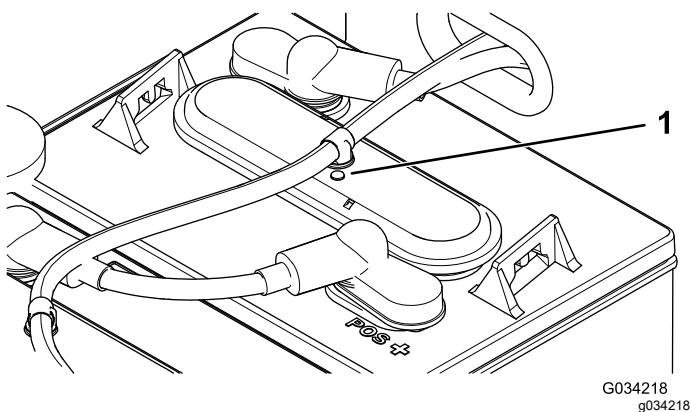

Figure 38
3. Check the eyelets on each of the batteries to see if they are either black or white (Figure 38).